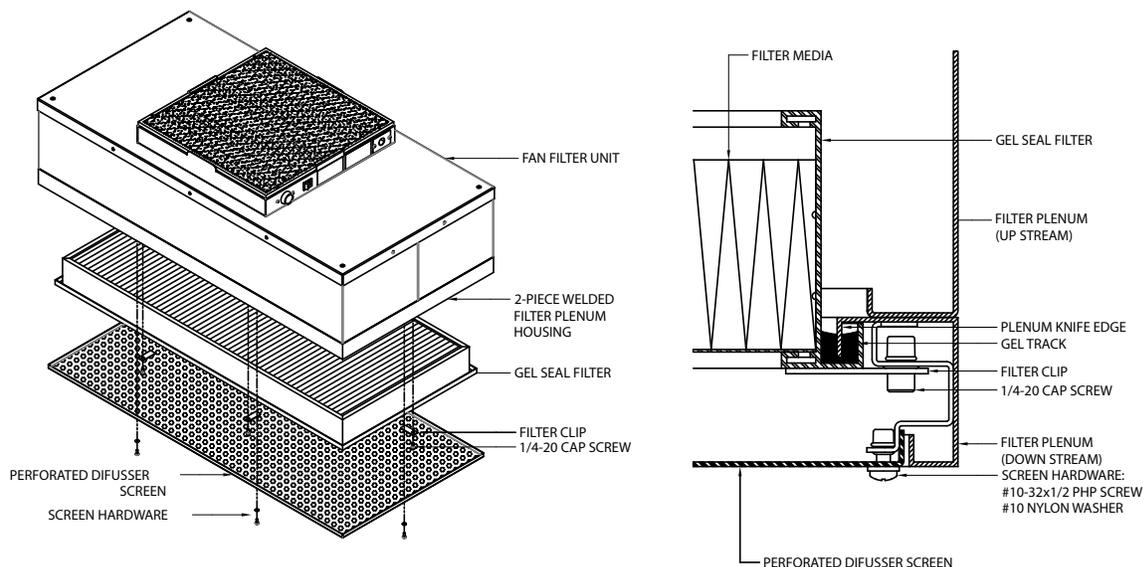

Figure 5: RSRE Filter Replacement
Step 3. Remove the prefilter from the snap-in frame. The beverage board frame has slots that have to be depressed to release the filter from the prefilter housing (See Figure 5, above.)